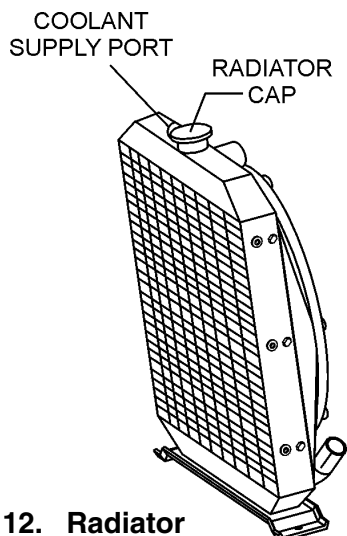

Figure 12. Radiator
1. Remove the radiator cap (Figure 12) only after the engine has completely **cooled**, and check to see that the coolant reaches the supply port.